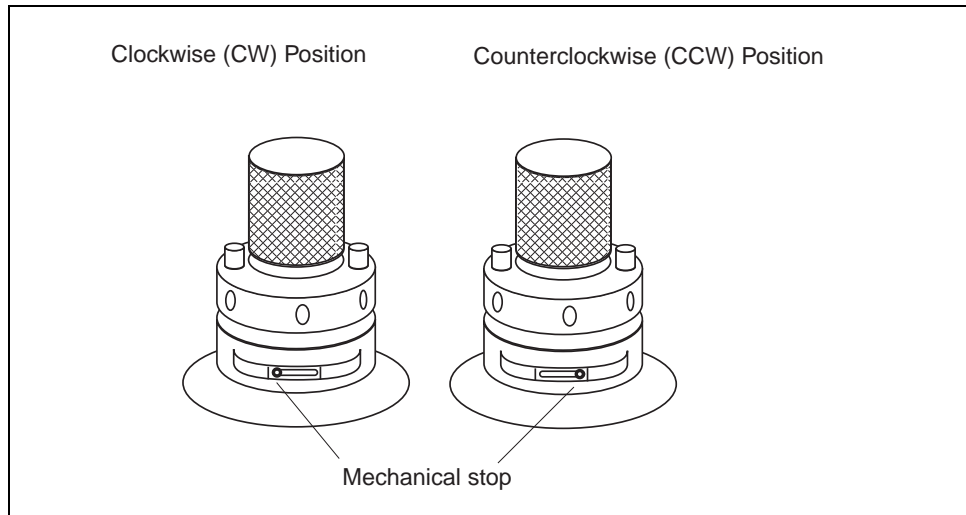
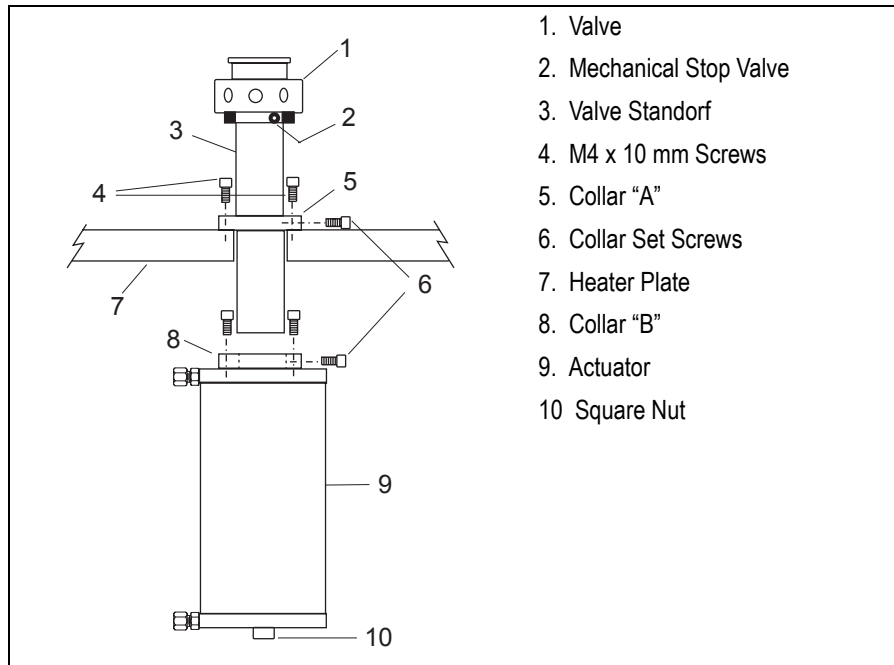

Figure 2-3. Mechanical Stop Positions for both CW and CCW
Figure 2-5. Installing the actuator to the valve standoff
2. Inspect the valve and actuator being sure the valve is in the counter clock wise (ccw) position. The ccw position is when the mechanical stop is in the position noted in Figure 2-3. If the valve is not in the ccw position, locate the square nut on the opposite end of the actuator (Figure 2-5).
3. Using a 5/16" or 8mm wrench, rotate the nut to the ccw position (Figure 2-5).
4. Once the valve is in the ccw position, separate the actuator from the valve and standoff by loosening the allen screw in collar B (Figure 2-5).
5. Remove the collar attached to the valve standoff (collar A, Figure 2-5) by loosening the screw that secures the collar to the valve standoff. This collar mounts to the Valve Oven heater block.
3. Refer to Figure 2-3 and inspect the valve stop when the valve is in both positions to ensure that the stop is at the travel limit on each side.